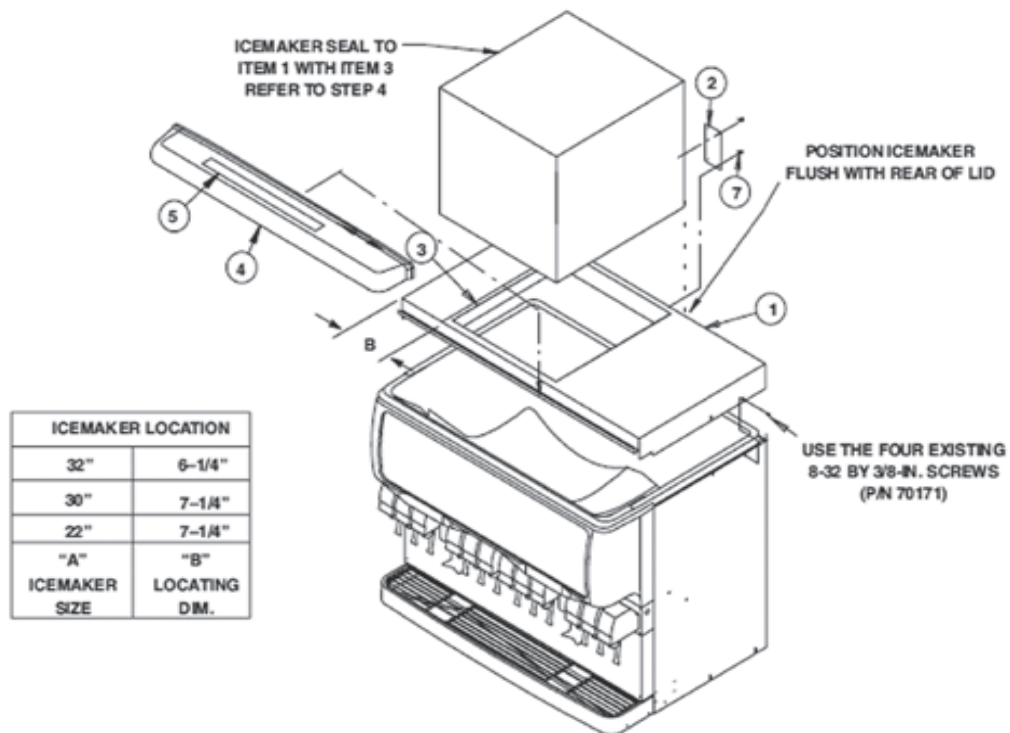

Figure 1.
4. Seal the icemaker to the top of the dispenser after determining the correct location for the ice maker (see Figure 1).
- 6. Install the wire form bracket, supplied with the bin stat kit (item 4), through the 5/8" diameter hole in the bottom of the ice maker. Wrap the eye of the wire form over the stud near the hole to the end of the wire form bracket and wrap the tube around the end of the bracket several times, insuring the tube is secure.
- 7. Locate the cleaning caution label (item 5) on the manual ice fill cover (item 4) as shown in Figure 1. Place the manual fill cover in position over the flange on the lid assembly and the front access hopper opening.